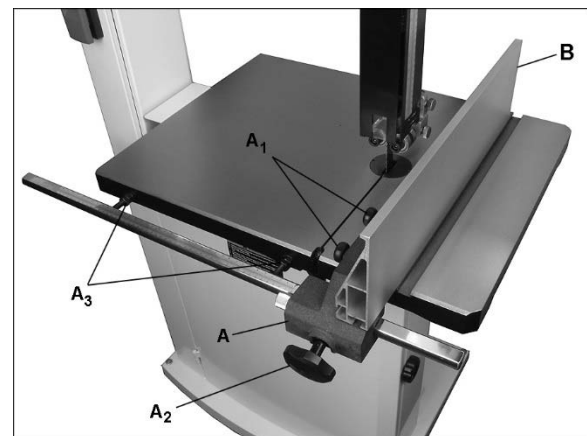

Figure 5-7
Refer to Figure 5-7.
1. Slide fence body (A, Figure 5-7) onto guide rail and move fence body to right of blade.
2. Install resaw fence (B) and tighten with two knobs (A1).